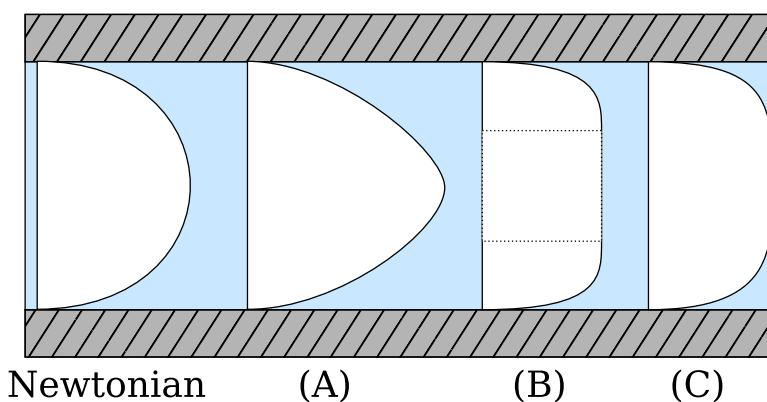

Figure 25: Non-newtonian flow profiles compared against the newtonian flow profile.
- 1) In Fig. 25, which profile corresponds to a shear thinning fluid? [2 marks]
- 2) In Fig. 25, which profile corresponds to a viscoplastic fluid? [2 marks]
- 3) Which profile in Fig. 25 corresponds to a shear thickening fluid? [2 marks]
- 4) Which profile in Fig. 25 corresponds to a Bingham-plastic fluid? [2 marks]
- 5) Which fluid types illustrated using the flow profiles in Fig. 25 cannot be fitted using a power-law model? [2 marks]